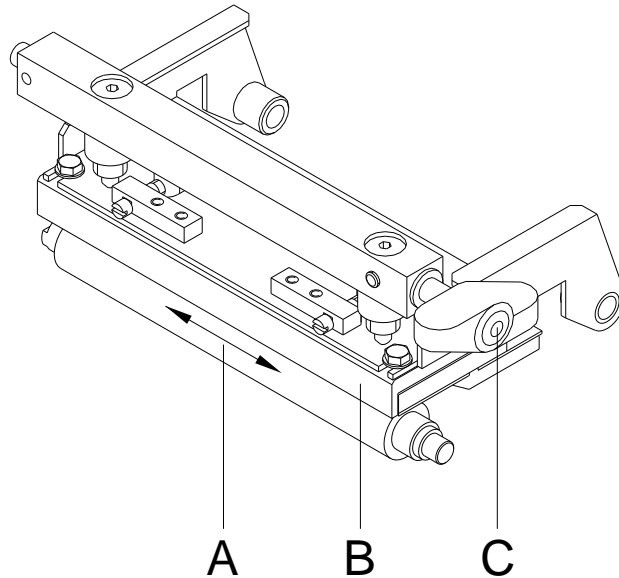

Figure 13
2. Turn the lever (A, in Figure 13) counter clockwise to lift up the printhead.
7. To move the printhead down, turn the pressure lever (A, in Figure 13) in clockwise direction until it locks.